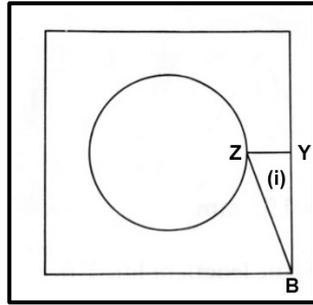

FIGURE 4.13
- D None of the above. (1)
4.13 In **FIGURE 4.13**, use Pythagoras' theorem to calculate the length of line B–Z if Y–Z = 200 mm and B–Y = 500 mm.